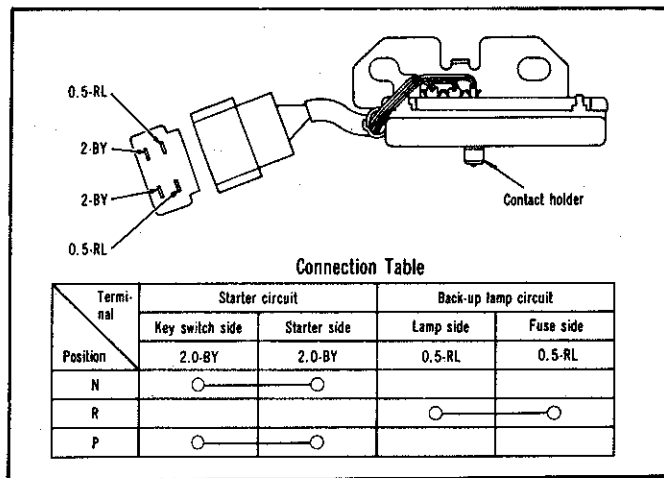

Fig. 4—Inhibitor switch and connection table
(1) While sliding the contact holder of the inhibitor switch (see Fig. 4), test that the starter and back-up lamp circuits are opened or closed at the appropriate time in "P", "R" or "N" positions.
(2) Replace any worn parts or bushings.